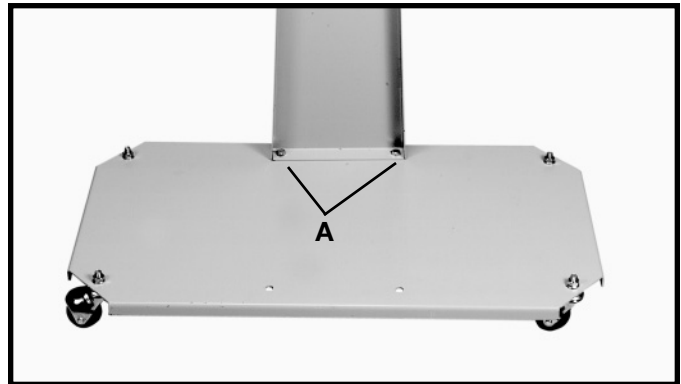

Fig. 6
3. Insert a 5/16-18x3/4" hex head screw (A) Fig. 6 thru each hole in the side support and base.